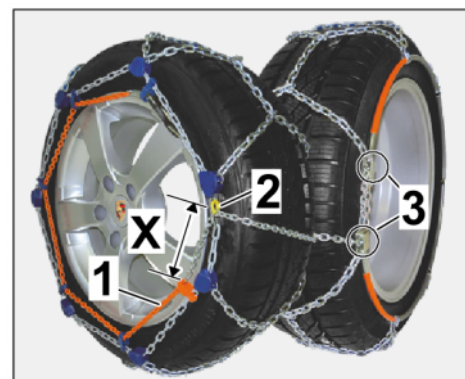

Figure 15
2.4 Check that the snow chain is installed correctly on the wheel (⇒ *Figure 15*)
- The area marked in red on the tensioning chain must be pulled completely through the slot on the locking plate. The distance between the area marked in red and the slot on the locking plate (dimension X ⇒ *Figure 15 -X-*) can vary depending on the tire size.
- Position of deflection roller/tensioning points (inside of wheel ⇒ *Figure 15 -3-*): must **NOT** be lying on the running surface of the tire or touching the road.